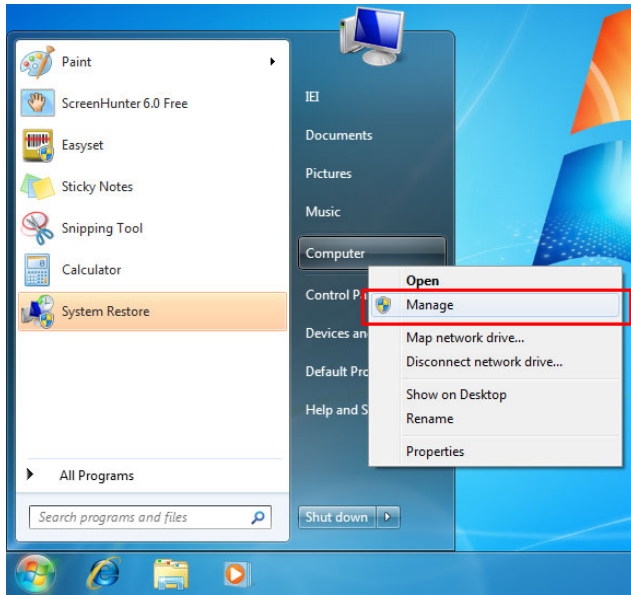

Figure 3-24: Check COM Port Information for MSR
- Step 1:** Check which COM port is used for the MSR connection. Right click “Computer” from the start menu and select “Manage” (Figure 3-24). The Computer Management window appears. Select “Device Manager” from the left panel and look for the COM port information on the right panel.